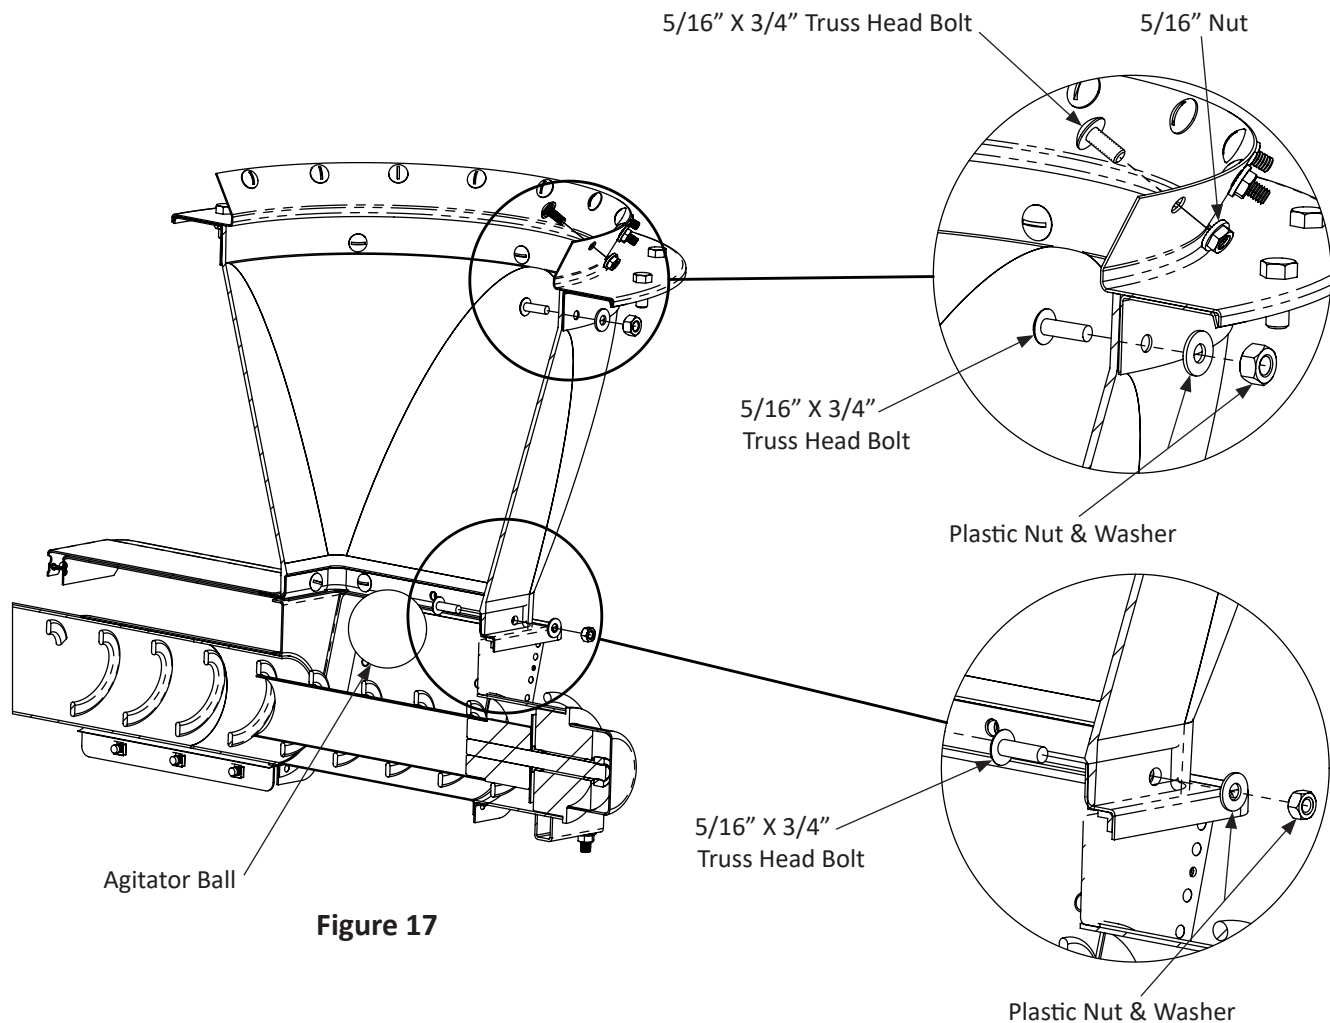

Figure 17
- It is very important to install the round head inside the bin so feed will flow over. This includes the hardware of the collar to the bin, the bottom collar to the boot transition, and the slide valve to the lower boot, as shown in the detail views of Figure 17.
- Bolt the lower boot to the transfer plate using the hardware provided, as shown in Figure 17.